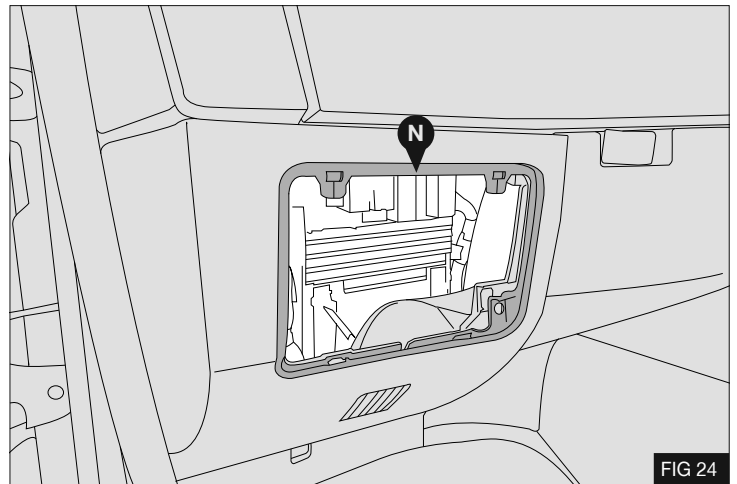

FIG 24
1. Remove trim (N) from the passenger side compartment to improve access for the following instructions. - Fig 24